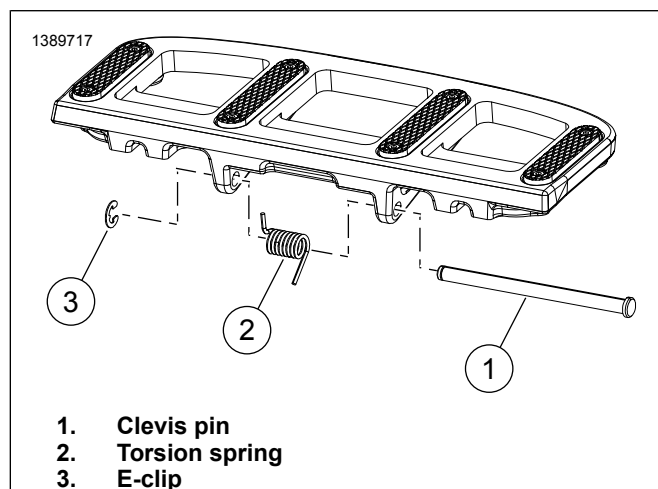

Figure 2. Rider Footboard Kit
1. See Figure 2. Remove E-clip (3), clevis pin (1) and return torsion spring (2).
- a. **Kits 50501679, 50501648, 50502256, 50502257:** See Figure 2. Insert short end of Original Equipment (OE) torsion spring (2) into forward most hole in footboard.